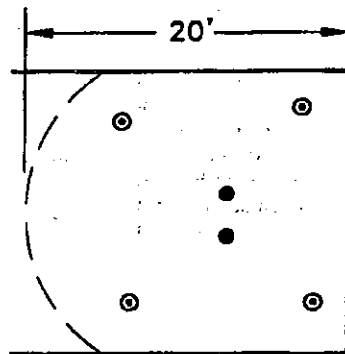

Figure 2-2: 20' Break
In normal situations, a pool with a 20' break, (see *Figure 2-2*) measured from the deep end, would require four (4) high flow heads on the floor.